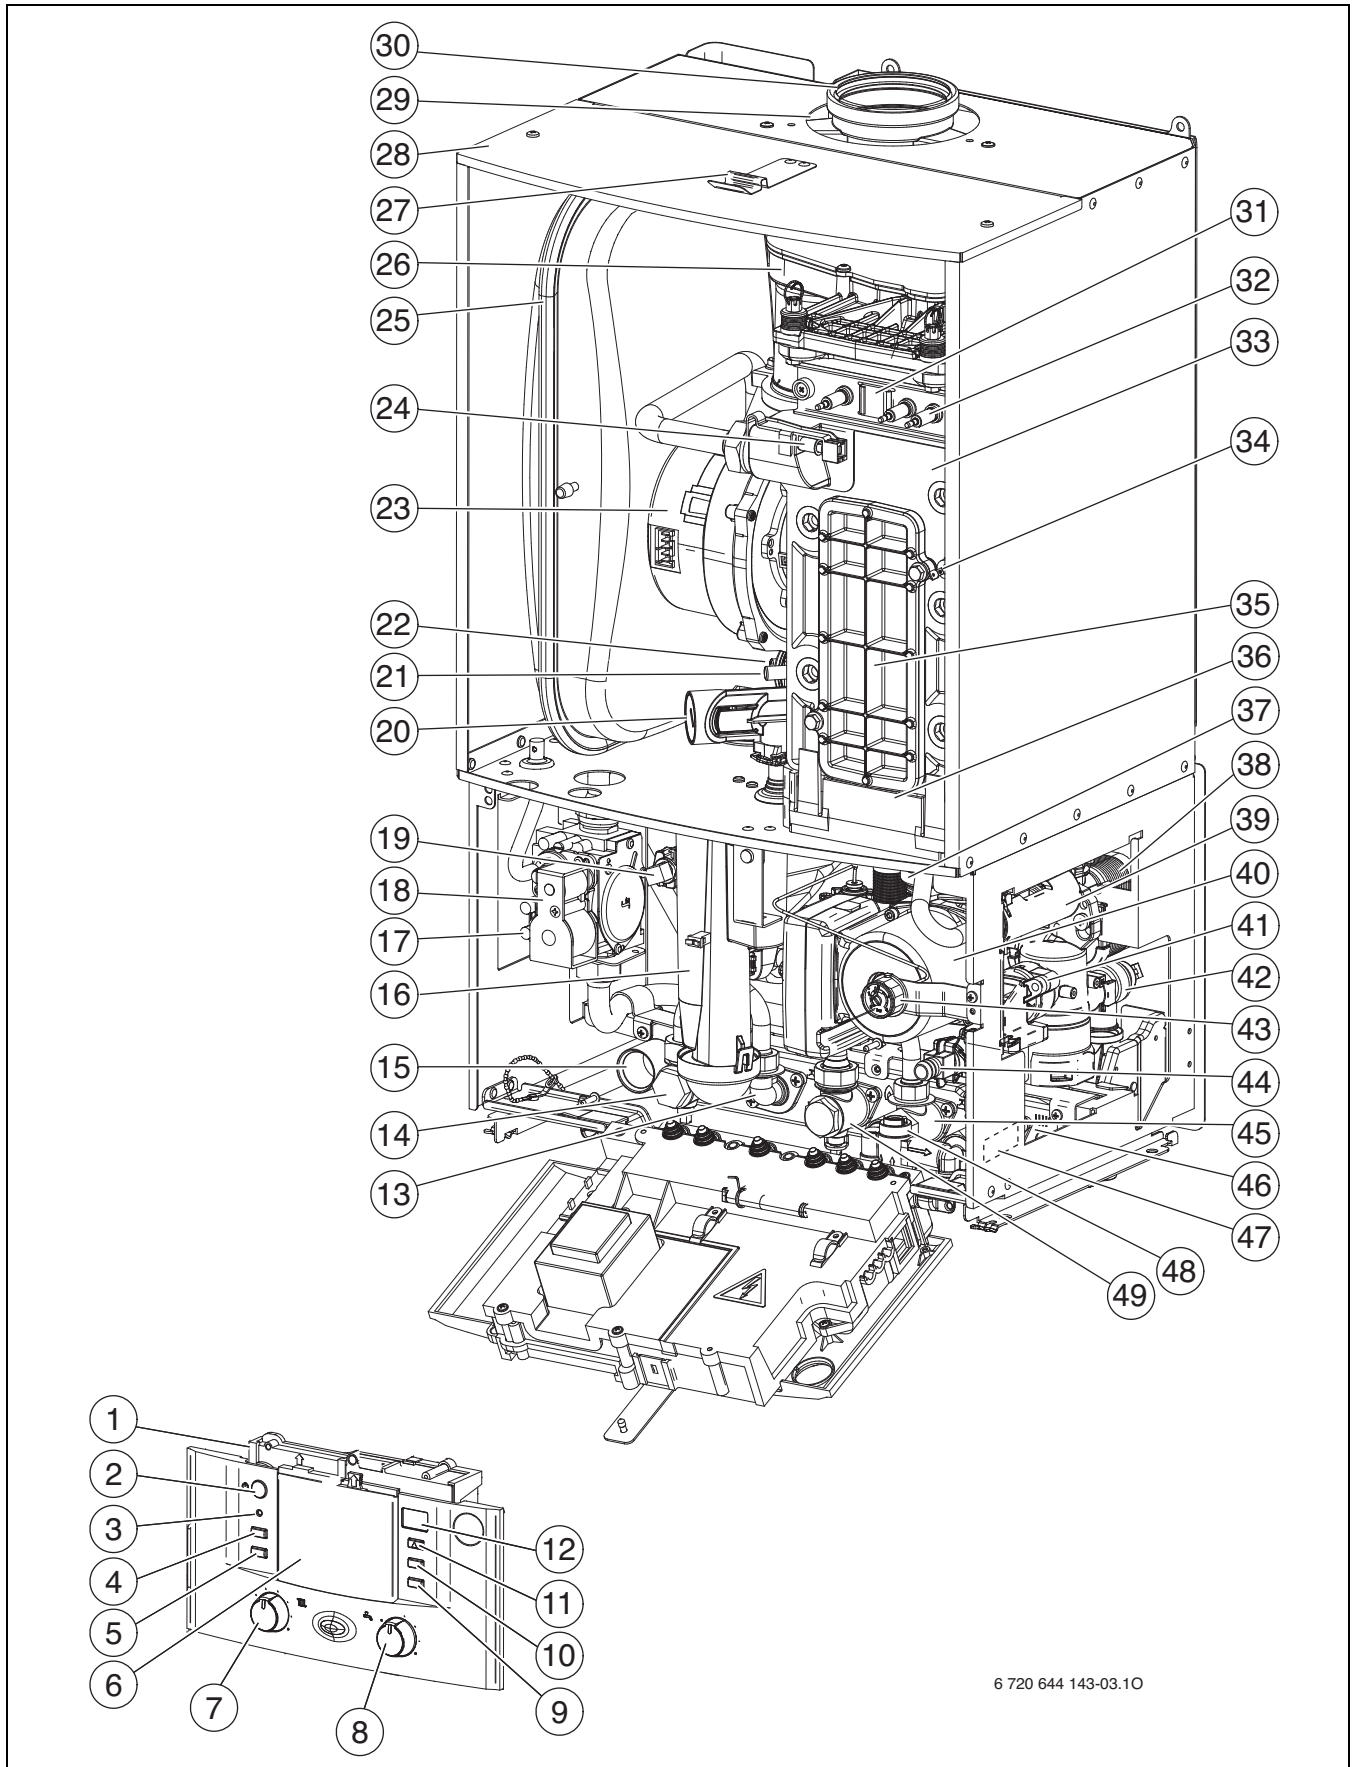

Fig. 3
The type plate [47] can be found on the inside of the appliance at the bottom right (→ Fig. 3, page 10).
**Key to figure 3:**